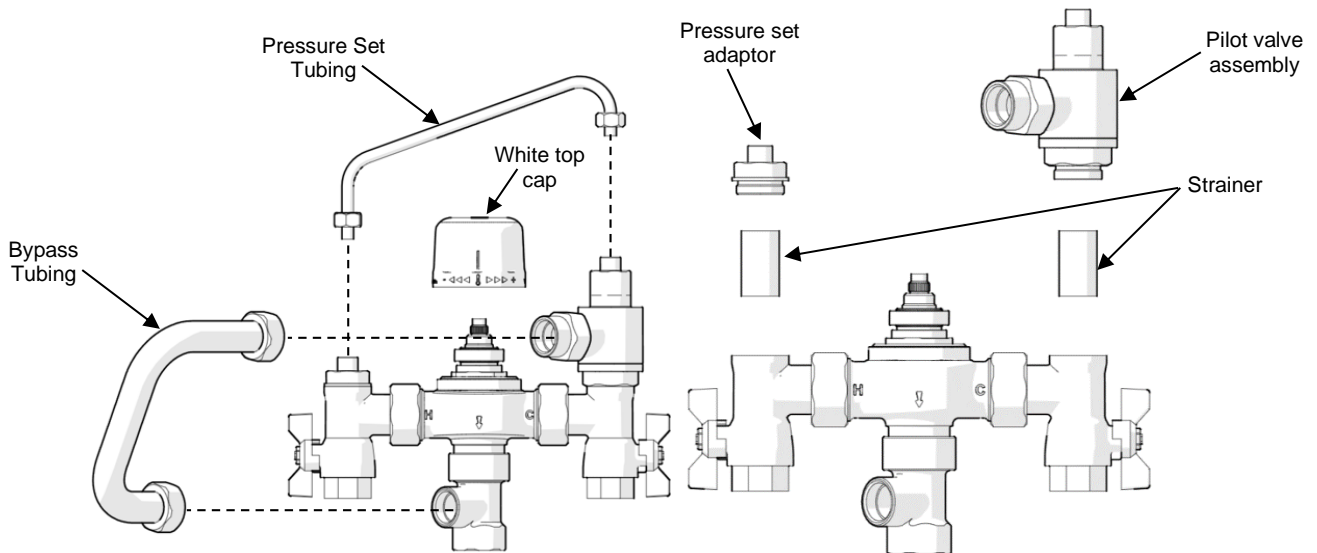

Figure 11
- c. Remove bypass tubing, pilot tubing and white top cap as shown in Figure 11.
- d. Remove the pilot valve assembly from the cold inlet fitting and the pressure set adaptor from the hot inlet fitting with a suitable spanner, and then remove the strainers as shown in Figure 11.